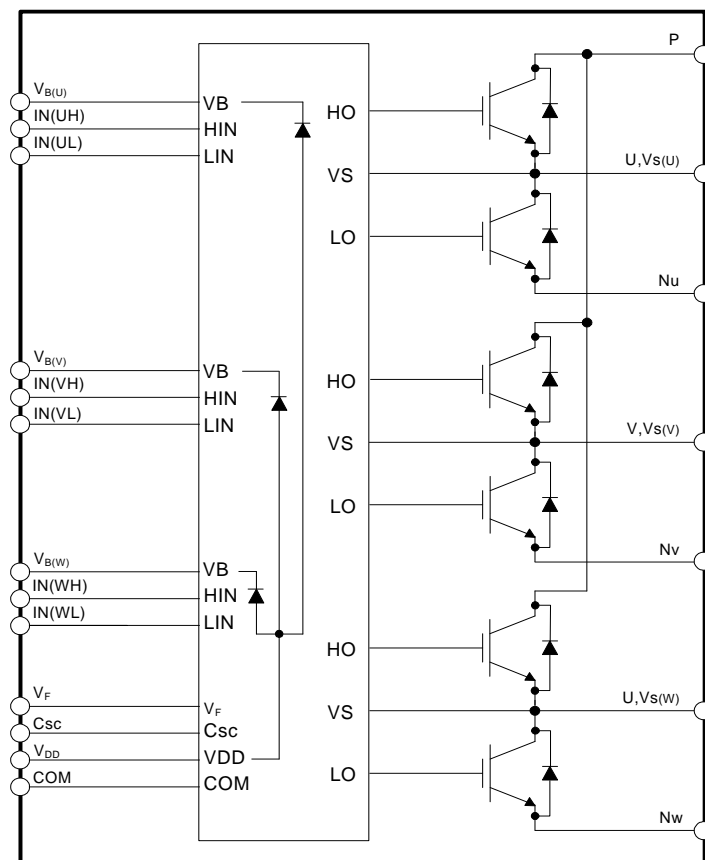

Figure 3. Internal Block Diagram
- 600 V - 5 A IGBT inverter for three phase DC / AC power conversion (Please refer to Figure 3)